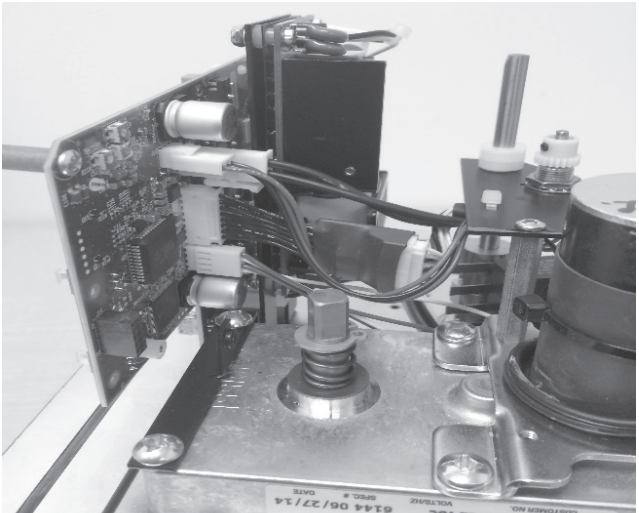

Figure 4.
- 4.6 Unplug all cables attached to the board and remove it, see Figure 4.